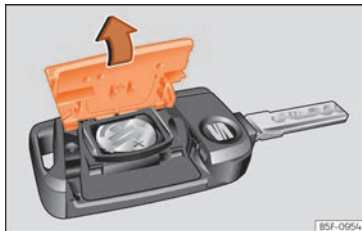

Fig. 74 Vehicle key: opening the battery compartment cover.
- Remove the cover from the back of the vehicle key »»» Fig. 74 in the direction of the arrow »»» ❶.
- Fit the cover as shown »»» Fig. 74, pressing it onto the vehicle key casing in the opposite direction to that shown by the arrow until it clicks into place.